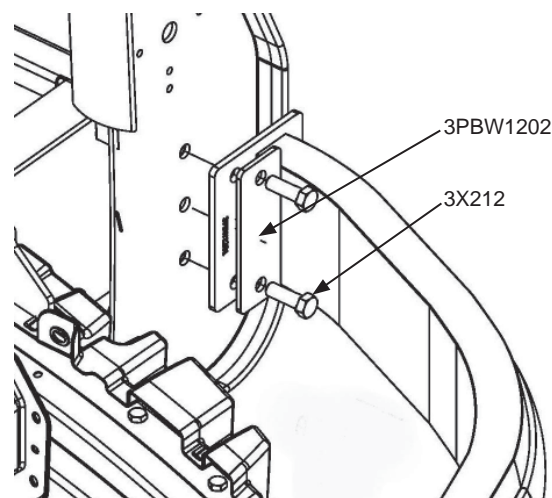

FIG. 4
- A. Support push bumper. Disassemble outer mounting bolts at push bumper and keep the washers and nuts (Fig. 4). It may be necessary to have someone assist you with aligning the parts.
- B. Assemble wrap mounting and backer plate 3PBW1202 to push bumper hole locations as shown (Fig. 4).
- C. Reassemble using longer 1-1/2" bolts 3X212 provided in kit and re-using the washers and nuts (Fig. 4).